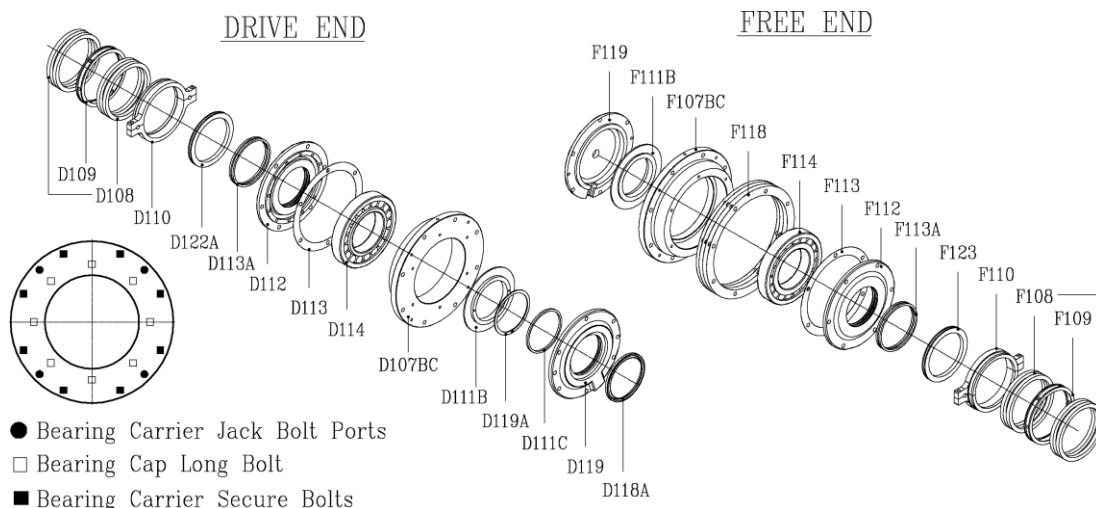

Figure 12. Removal of bearing carrier
1. Remove the bearing from the shaft (see Figure 12.)
1. Remove free end bearing carrier (F107BC) with bearing (F114) from shaft (M103) (see Section 12 and Figure 12: Remove Bearings From Shaft). If both ends of the pump are to be disassembled, remove both bearing carriers.